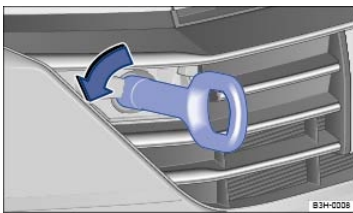

Fig. 173 In the right front radiator grille: Installing the towing eye.
There is a threaded hole for the towing eye in the right front area of the radiator grille behind a cover ⇒ Fig. 173.
- Screw the towing eye **counterclockwise** into the threaded hole as far as it will go (arrow) ⇒ Fig. 173 ⇒ . Use the lug wrench to turn and tighten the towing eye.